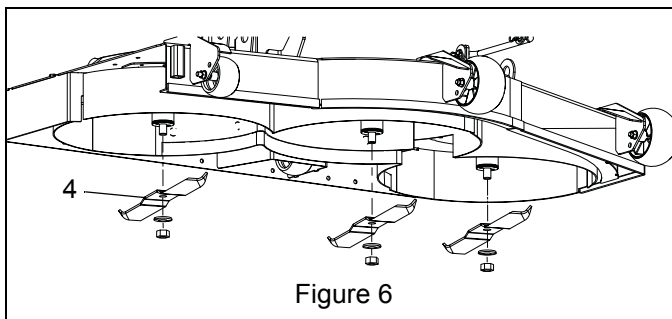

Figure 6
8. Install mulch blades (item 4) with washers and hex nuts removed earlier. Torque blade nuts to 136 N•m – 163 N•m (100 lb-ft – 120 lb-ft). See Figure 6.